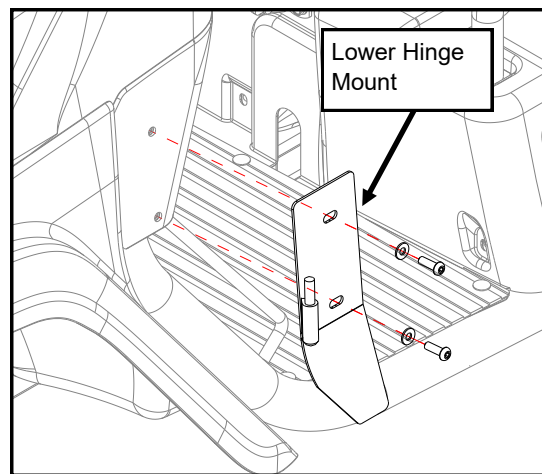

Fig. 7
7. Install left Lower Hinge Mount to the vehicle using (2) M8 button head cap screws and steel washers, as shown. Leave finger tight. (see fig. 7)